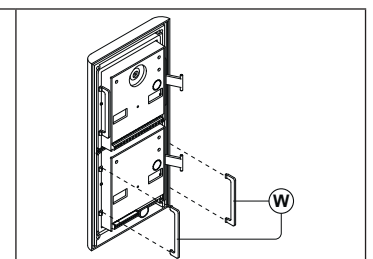

Fig. 6
Fit the anti-tampering locks (W) as shown in Fig. 6.